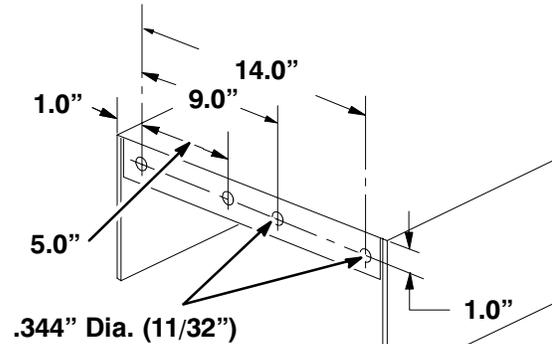

Figure 3
1. Using dimensions shown in figure 3, locate, mark and drill (4) .344 in. dia. holes in rear of mower frame.